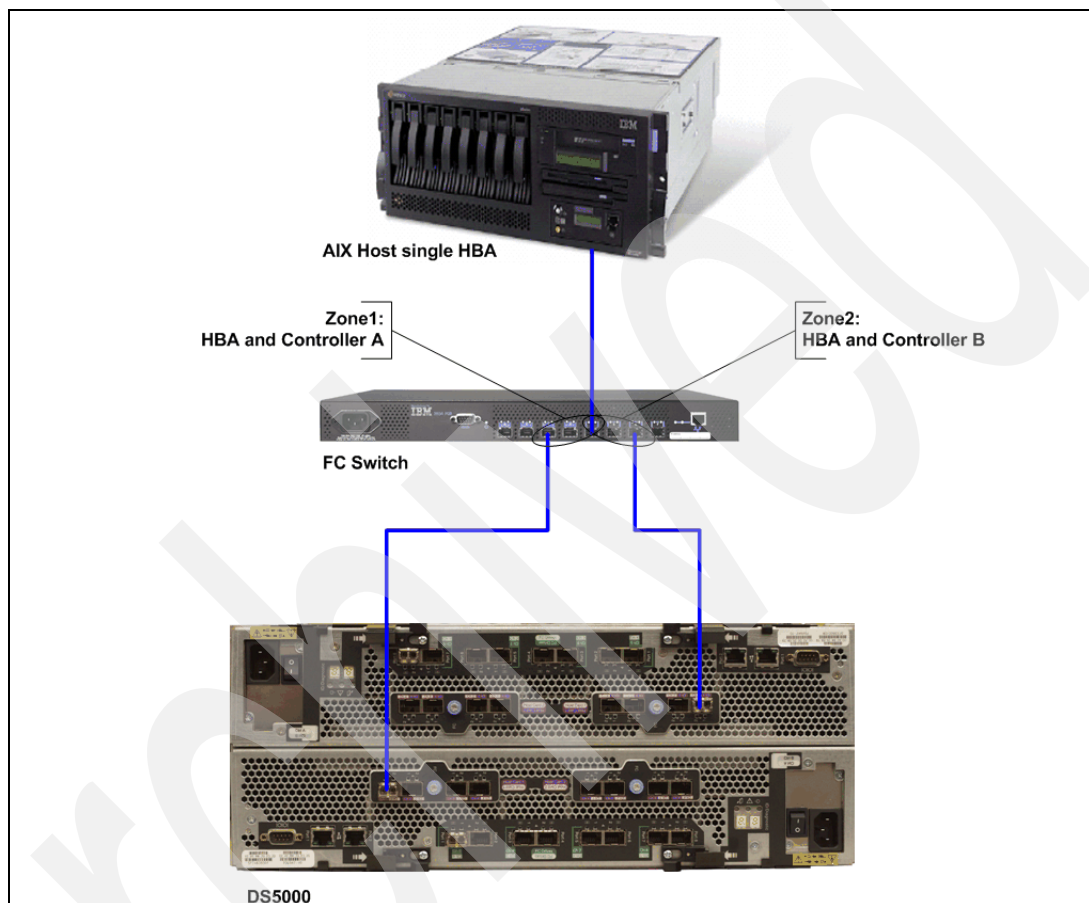

Figure 4-27 Single HBA configuration in an AIX environment
- ▶ Single HBA configurations are allowed, but each single HBA configuration requires that both controllers in the DS5000 Storage Server be connected to the HBA through a switch with both controllers zoned to the HBA, as shown in Figure 4-27.